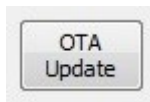

Figure 3.25: KES Demonstrator: OTA Update
14. Pressing the **OTA Update** button on the KES Demonstrator, see Figure 3.25, switches the Host application to Bootloader mode. The bootloader supports CSR OTA Update Application service which enables wireless update of the application software. The CSR µEnergy Over-the-Air Updater host application included in the SDK can be used to update the device.